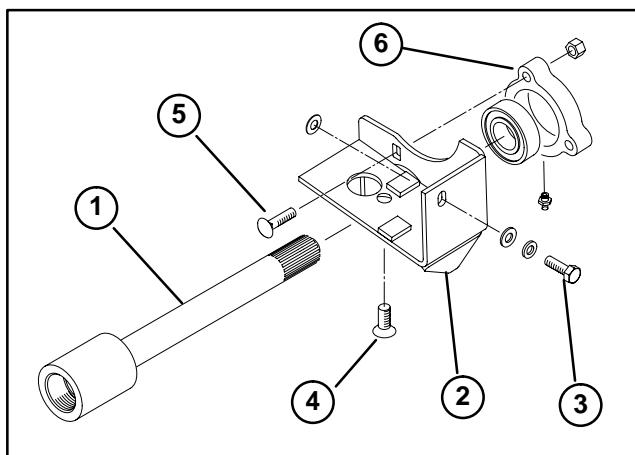

Figure 8
- B. Slide traction shaft through bearing bracket, aligning the (2) bearing bracket mounting holes with the holes in side and bottom of hydrostatic (Fig. 8).
- C. Mount side of bracket to hydrostat with a capscrew, lock washer, flat washer and 1 or 2 shims (Fig. 8).